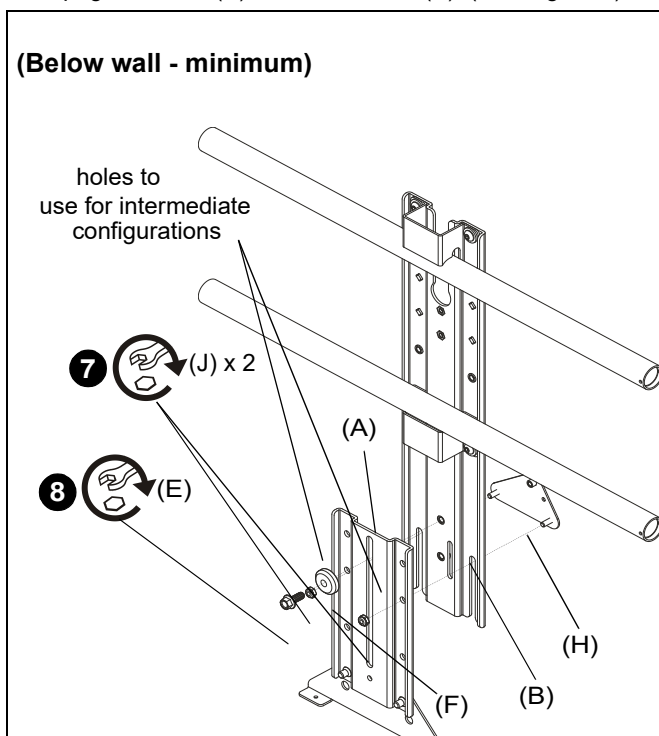

Figure 6
7. (For **minimum/intermediate extension**) Use two #10-24 lock nuts (J) to secure upright bracket (A) to main bracket (B) and adapter plate (H). (See Figure 6)
8. (For **minimum/intermediate extension**) Use 1/4-20 x 5/8" hex head flange bolt (E) and center washer (F) to secure upright bracket (A) to main bracket (B). (See Figure 6)